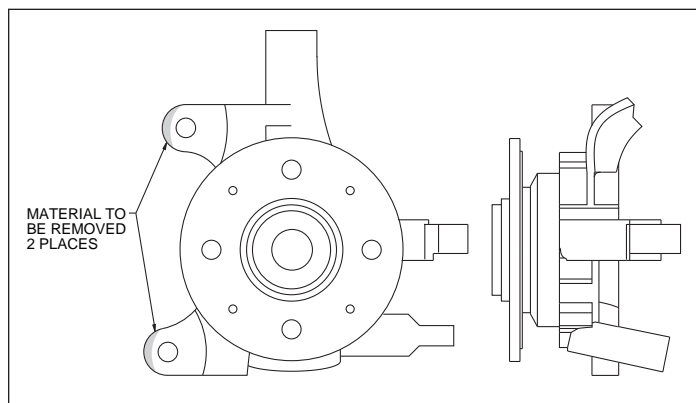

Figure 3. Spindle Modifications
- There are spindle modifications that need to be performed before installation of the Wilwood caliber bracket. Please reference Figure 3, page 4. These modifications should be performed by a qualified machinist.
- These modifications should be performed by a qualified machinist. Refer to figure 3, right. Only one view of the spindle is shown, but the modifications need to be performed on both spindles.